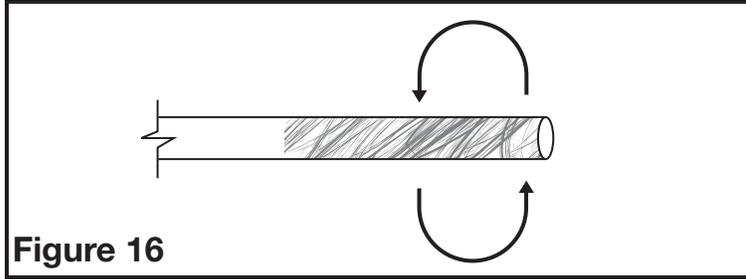

Figure 16
1. SAND BOTH ENDS of the water supply tube (Figure 16). FAILURE TO DO SO MAY RESULT IN LEAKS.